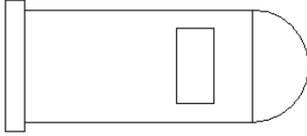

Figure 4-31: The completed steam boiler.
11. Save your drawing. It should look like Figure 4-31.